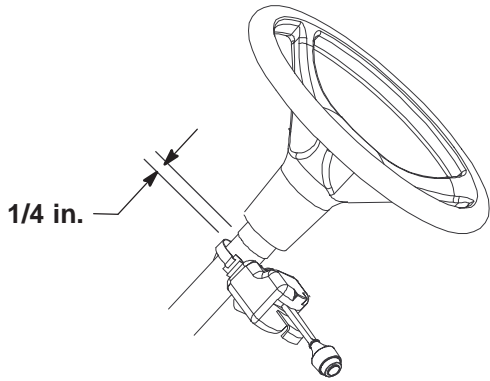

Figure 3
E. Hold the controller against the steering column so that the strap is approximately 1/4 in. from the foam on the steering column (Fig. 3). Bend the strap around the column. Insert the other end of the strap through the second clip and bend the strap 1 inch (25 mm) from the end. Catch the clip under the anchor on the controller.